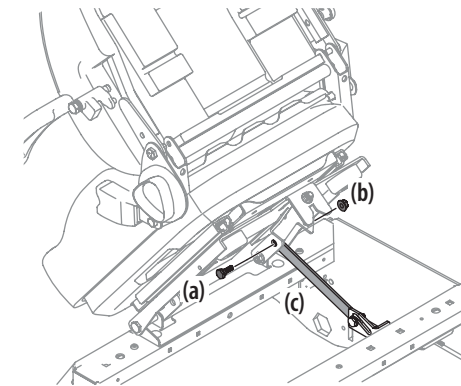

Figure 2-8
- Remove the shoulder screw (a) and flange lock nut (b) from manual bag and install the seat lockout bracket (c) as shown in Figure 2-8.